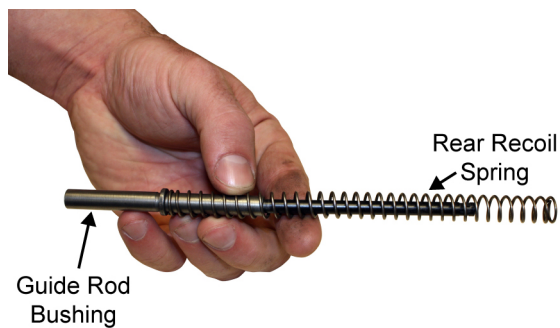

Figure 4. Guide Rod Bushing and Rear Recoil Spring.
- Remove the rear recoil spring from the guide rod bushing. Refer to Figure 4.